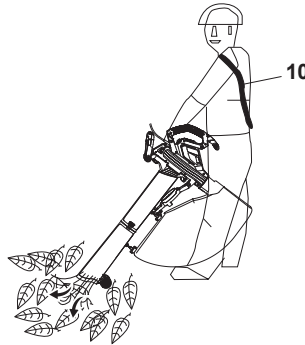

Fig. 11
2. Always hold the product by the main handle (1) and the front handle (3).
3. Attach the harness (10) to the hanging hole (1a) and hang it on the shoulder.
4. Hold the tube approximately 10 cm above the ground and walk slowly forward using a sweeping motion from side to side (Fig. 11).